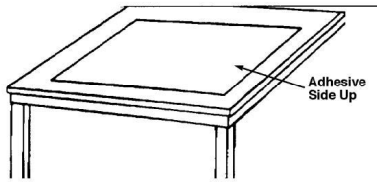

Figure 2. Lay the Application Tape Adhesive-Side-Up
1. Lay an appropriately-sized piece of application tape adhesive-side-up on a table. See Figure 2.